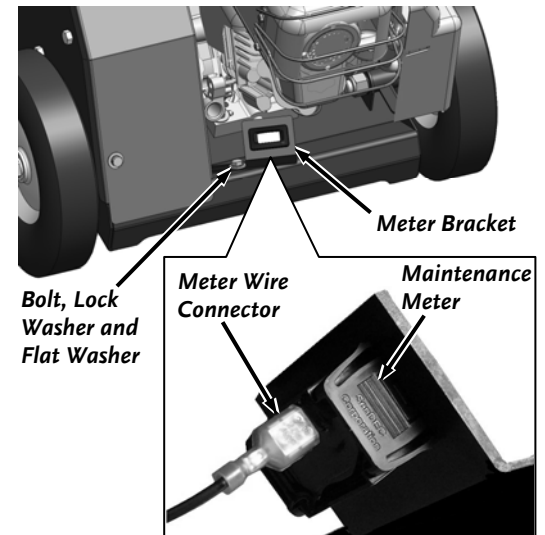

Figure 11
1. Insert the Meter into the Bracket opening as shown in Figure 11. Press it firmly to ensure the retaining clips on the top and bottom of the meter have snapped into place.
3. Remove the Bolt, Lock Washer and Flat Washer from the Frame using a 1/2" Wrench (**Figure 11**).